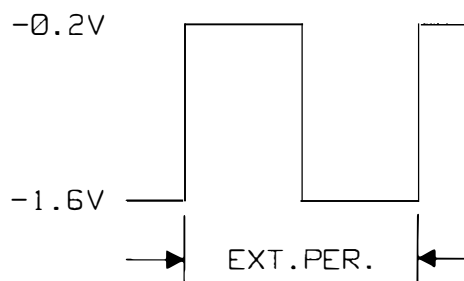

Figure 10.3-8. Period Generator Input pin 7
3. Check the input signal from the trigger input circuit at pin 7 of U200 against Figure 10.3-8.